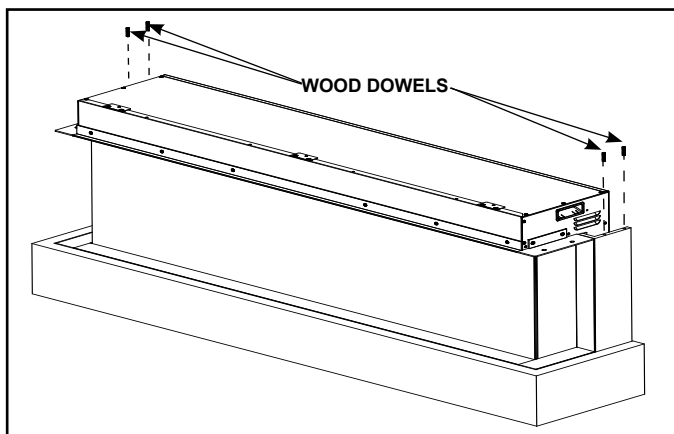

Figure 17
9. Insert the two (2) wooden dowels on each side into the open holes in the top of the mantel side panels. See Figure 17.